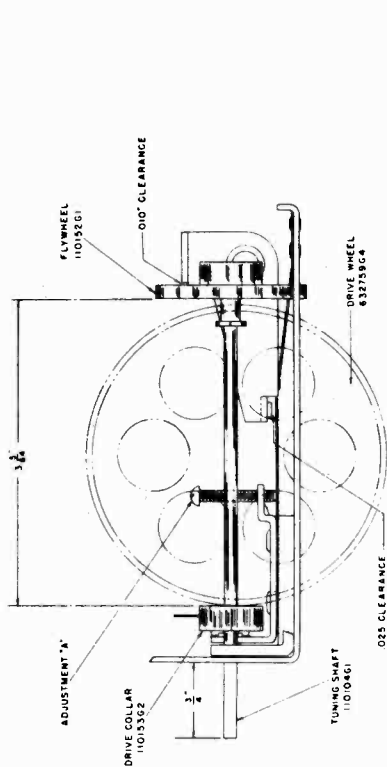
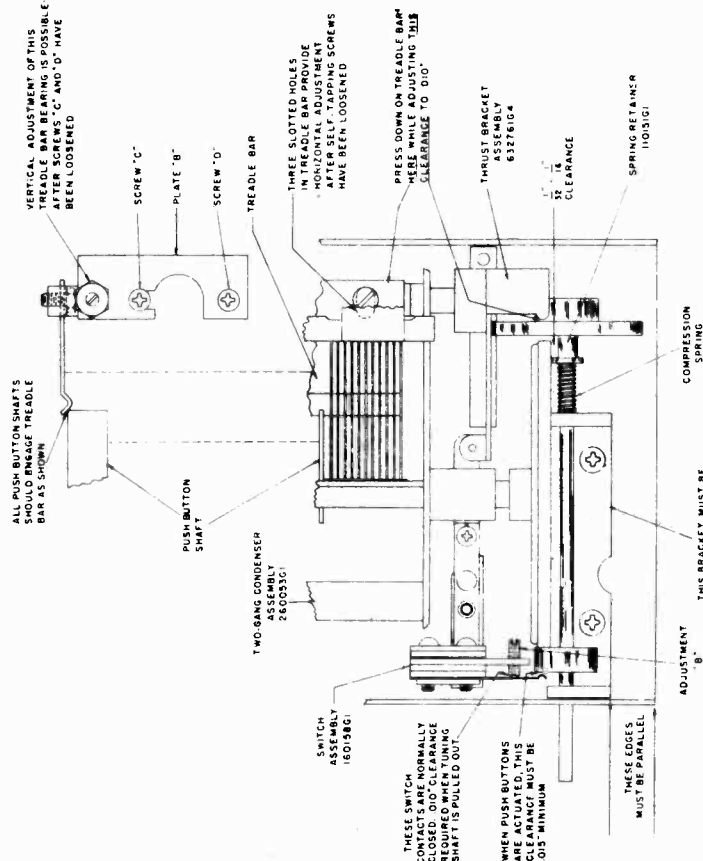

FIGURE 2
FIGURE 3
Whenever any of the mechanical parts in the condenser gang drive assembly require replacement due to rough handling or for any other reason, it is extremely important that clearances and adjustments shown on Figures 2 and 3 are effected; otherwise the tuning mechanism will be sluggish or it may slip during operation.
1. Assemble the Tuning Shaft, Drive Collar, Compression Spring, Spring Retainer and Flywheel in the manner shown on Figure 3. Note that the Tuning Shaft must extend $\frac{3}{4}$ " from the front of the assembly and that the spacing between the rear of the Drive Collar and the front of the Flywheel must be 3-5/64". Any excess length in the Tuning Shaft may extend beyond the rear of the Flywheel. See Figure 2.
2. The distance between the rubber-tired Drive Wheel and the smaller diameter section of the Spring Retainer must be 1/32" to 1/16" (Figure 3). This adjustment is effected by loosening the two No. 6 Allen set screws in the Drive Wheel hub and sliding the wheel on its shaft until the required clearance is obtained. When the adjustment is completed, tighten the two screws in the hub of the Drive Wheel.
3. While pressing down on the Treadle Bar at the location shown on Figure 3, adjust the Thrust Bracket until the clearance between the rear of the Flywheel and the projection on the Thrust Bracket is .010" as shown on the diagram. To make this adjustment, loosen the two No. 6 Allen set screws (use No. 6 Allen Wrench—Magnavox Part No. 800044G2) in the hub of Thrust Bracket and rotate the bracket until the specified clearance is obtained when the push buttons are NOT actuated. Tighten the two screws securely when the adjustment is completed. Press each push button and check that the Drive Collar is pushed away from the rubber-tired Drive Wheel.
4. Next, adjust the clearance in the muting switch contacts by turning the Phillips-head screw designated Adjustment "A" on Figure 2, until the specified clearance of .025" is obtained (when the push buttons are NOT actuated).
This can usually be accomplished by loosening the two screws designated "C" and "D" on Figure 3, and moving plate "B" in the direction required to correct this condition.